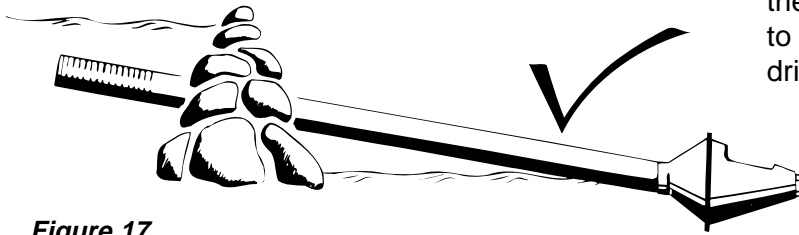

Figure 17
**Figure 17** is the most common method, note the drive tube positioned half way up the weir to make sure there is plenty of water above the drive tube inlet and strainer.